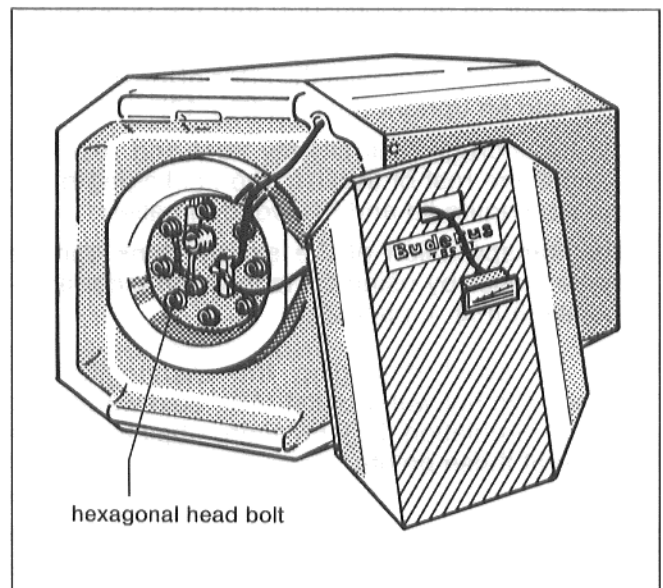

Fig. 13
- Unscrew the hexagonal head bolts from the inspection port lid and remove the lid with the magnesium anode and seal (Fig. 13).
- Feed the sensor leads through the slit in the thermal insulation (Fig. 13).